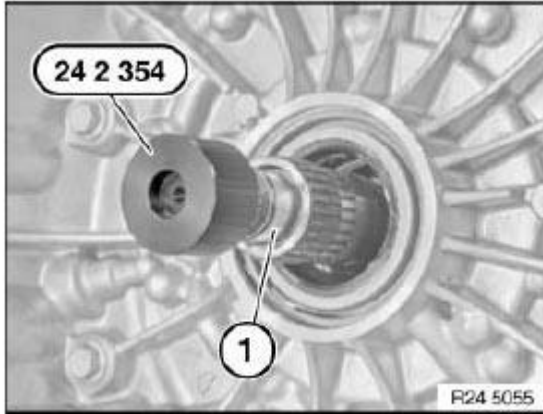

Fig. 50: Identifying Special Tools (24 2 354)
Attach special tool **24 2 354** to drive shaft (1). See **Fig. 50**.